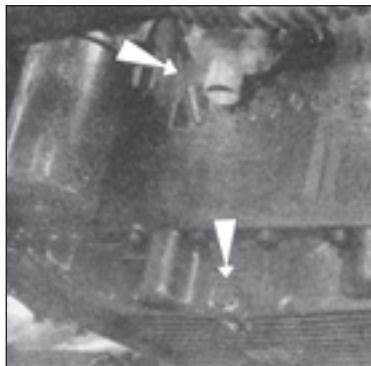
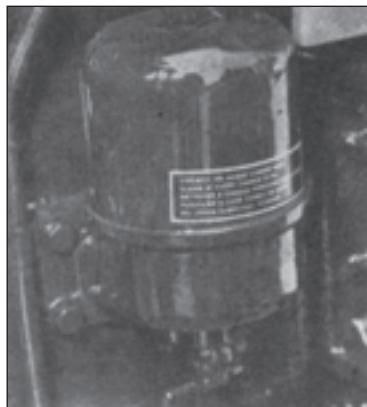

Fig. 179
Fig. 181
57. Check the condition of carbon brushes in the electric motors of the heater (Fig. 179).
Keep the engine oil level between the upper and the lower dipstick gauge line (Fig. 179). When the scheduled oil change is due, drain the sump while the oil is still hot, and do it by screwing out the drain plug on the bottom cover of the engine gear-box (Fig. 179). Clean the plug from sticking metall particles. At the same time clean the centrifugal oil filter (Fig. 181).
Centrifugal oil filter (Fig. 181)